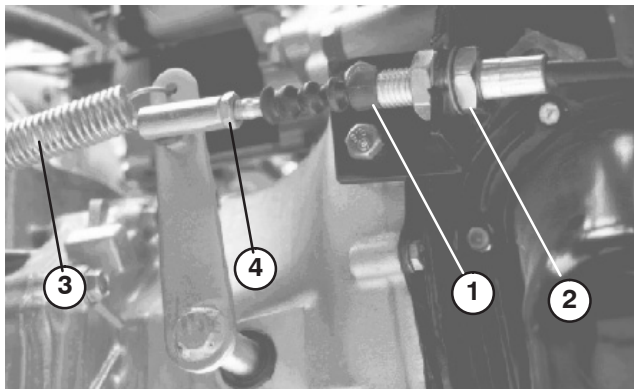

Figure 62
1. Loosen jam nuts securing clutch cable to bracket on bell housing (Fig. 62).